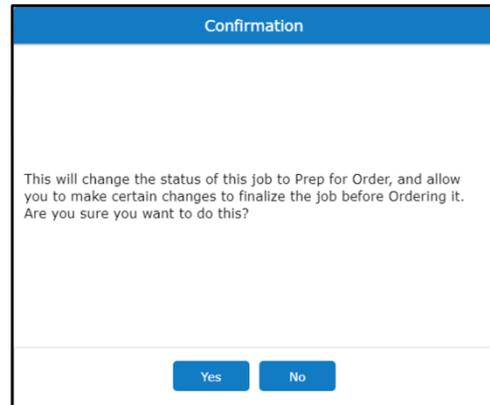

Figure 23: Click `Yes` to confirm that you are ready to prepare your job for order.
8. Once you have made all your desired changes, click on the `Make Order` button in the *Page Header* at the top of the page. The dialog box pictured in **Figure 23** (right) will open, asking you to confirm that you have read and agree to the Roofing Passport terms of service. Place a checkmark in the checkbox by clicking on it with your mouse, and then click on the `Accept` button.